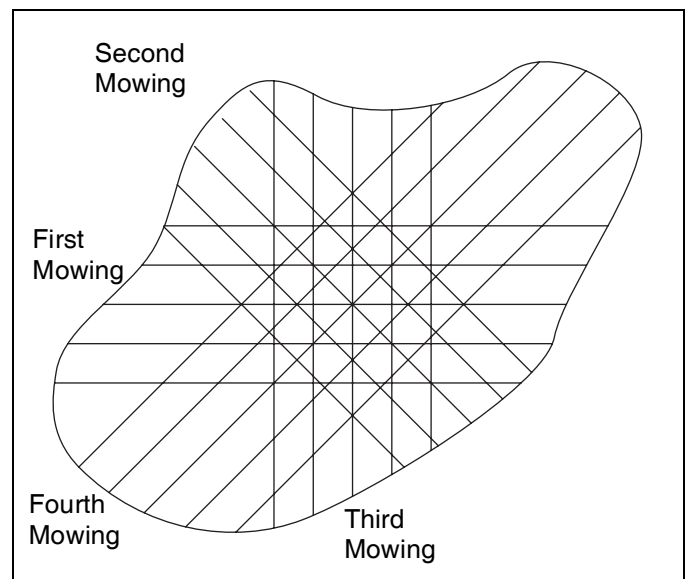

Figure 6G
5. For a more even playing surface and neater appearance, alter the mowing pattern each time a green is mowed. The patterns shown in **Figure 6G** are suggestions only, the operator or course superintendant can arrange patterns to suit each green.